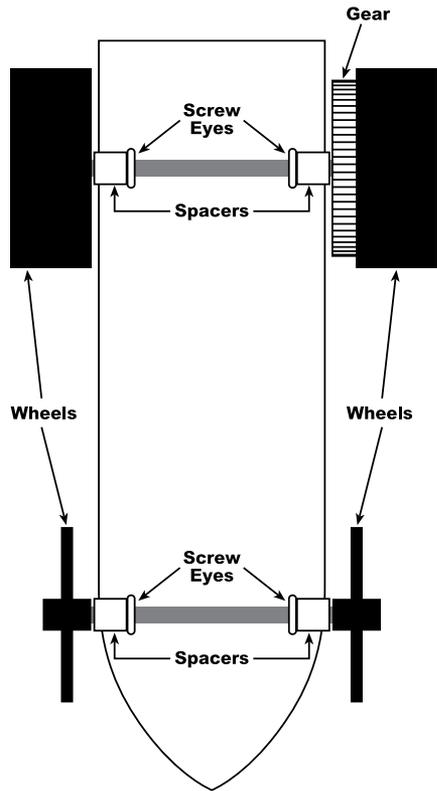

Figure 2
11. Push the drive gear on the axle end and push it until it is snug against the wheel. Add a spacer against the gear. Hold the car so the bottom of the chassis board is facing up and the back end is toward you. From the left side, push the end of the axle through the two screw eyes that are on the back axle line (Figure 2 on the next page). When you flip the car over, the wheel and gear will be on the right side.
12. Place another spacer on the end of the axle. Push the other rear wheel on the axle (Figure 2). For the wheels to turn properly, make sure the wheel and axle parts are not pushed together too tightly.
13. Place the other axle into one of the front wheels. Follow with a spacer and then push the axle through the two front screw eyes. Follow with another spacer and the other front wheel (Figure 2). Again, make sure the parts are not too tight. If any of the wheels rub against the chassis, cut slightly longer spacers and replace the old spacers.